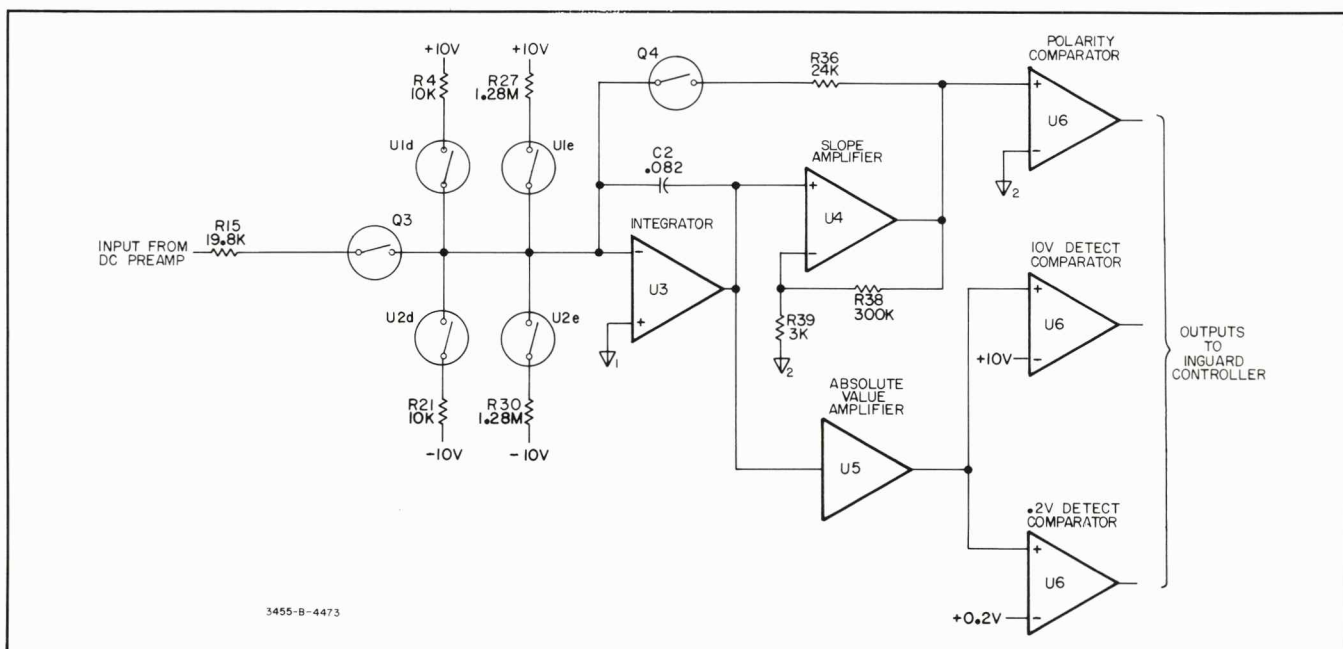

Figure 8-18. Simplified A/D Converter Diagram.
**8-45. Offset Error Measurement.** Figure 8-18 shows a simplified schematic of the A/D Converter. During the offset error measurement all input switches to the integrator are opened. During the integration period, the integrator is permitted to charge to a voltage equal to any offset current present in the integrator circuit. At the end of the integration period the integrator is “run-down” and the offset digitized and stored as the A/D Converter offset error by the main controller.